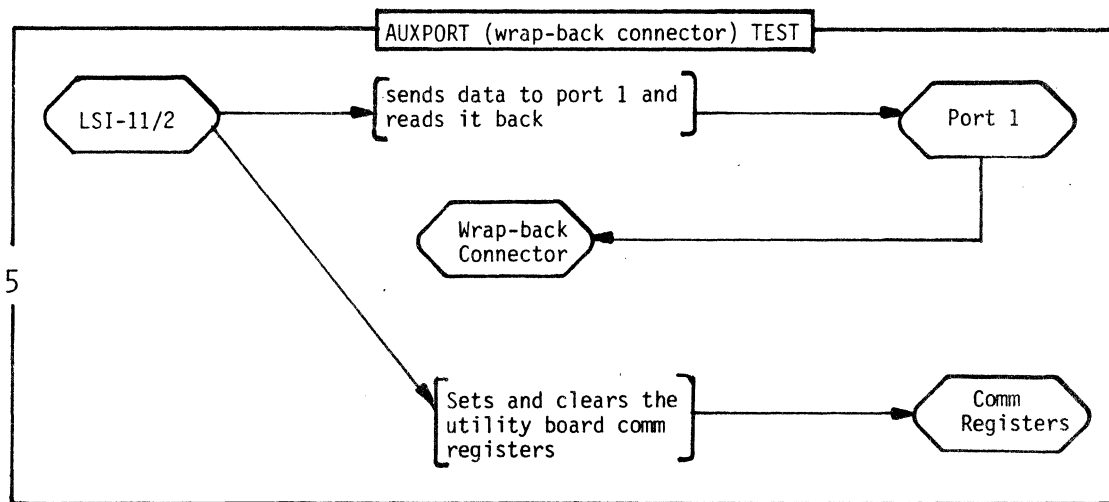

Fig. 4-14. Wrap-back test.
5. TEST WITH WRAP-BACK (Fig. 4-14). The LSI-11/2 processor sends a set of data to the port and reads it back via the wrap-back connector. The test also checks that the appropriate communications register bit can be set and cleared.